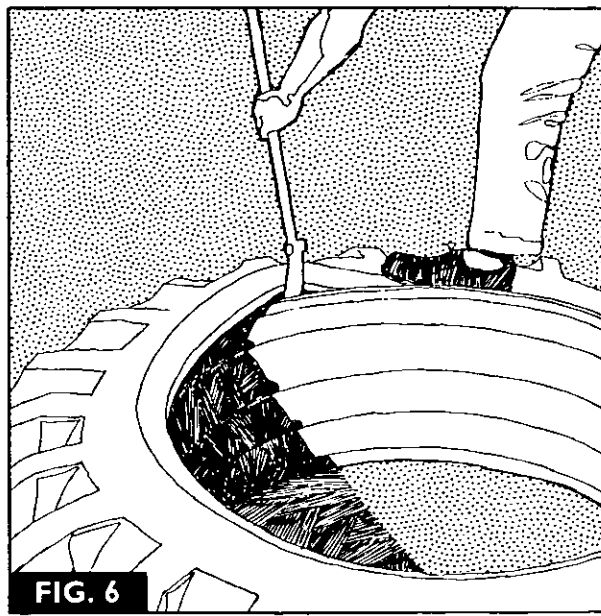

FIG. 6
2. Fig. 6. Refit the tyre, starting opposite the valve location taking small bites with long tyre levers and keeping the fixed part of the bead fully located in the well.